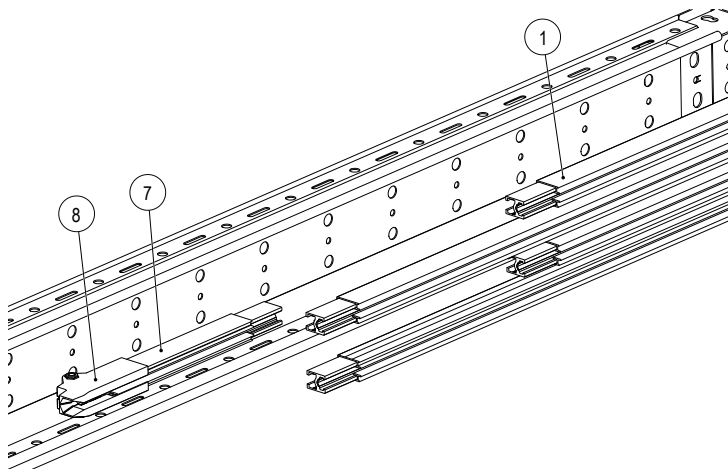
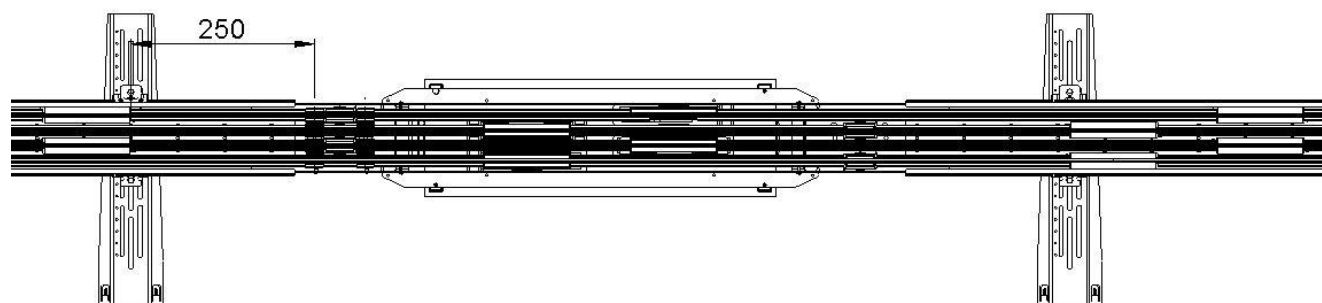
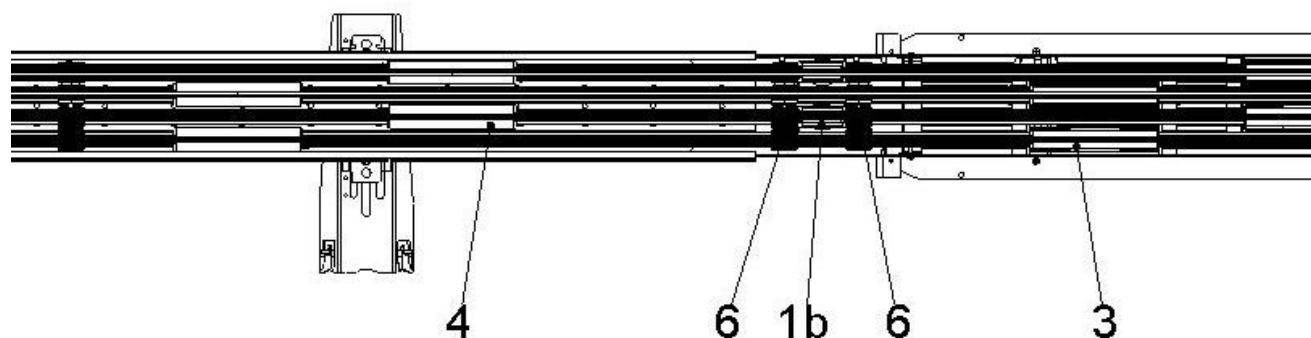

Fig. 34: Install short pieces (7) on conductor rail pieces
Fig. 44: Distance between connector and hanger clamp
Fig. 46: System overview on track
This means that the short pieces (250 mm) (7) must be connected to the conductor rails (1) before installation in the terminal box (see Fig. 34).
7. Connect the conductor rails on the track to the end of the system (see BAL0812-0001). Note that the distance between the hanger clamps and the connectors must be at least 250 mm (see Fig. 44 to Fig. 46). If the conductor rail with the line feed and the anchor point is the last conductor rail of the system, the short pieces (7) and end caps (8) must be installed beforehand (see Fig. 34).